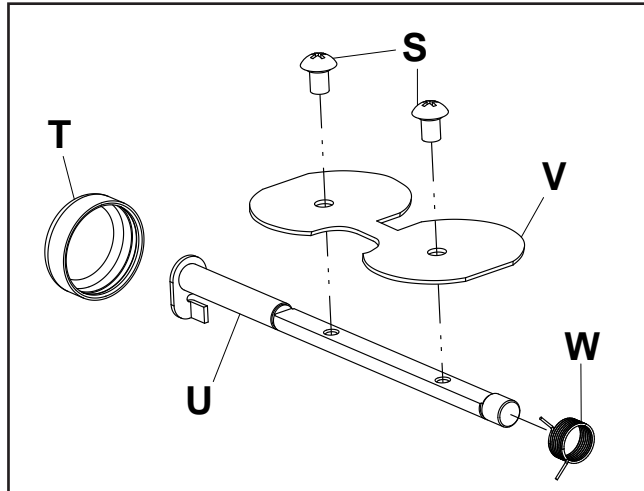

Figure 22
1. Remove the two screws (S) (Figure 22) and choke butterfly (V).
2. Remove the outer plastic cap (T) (Figure 22) from the override assembly.